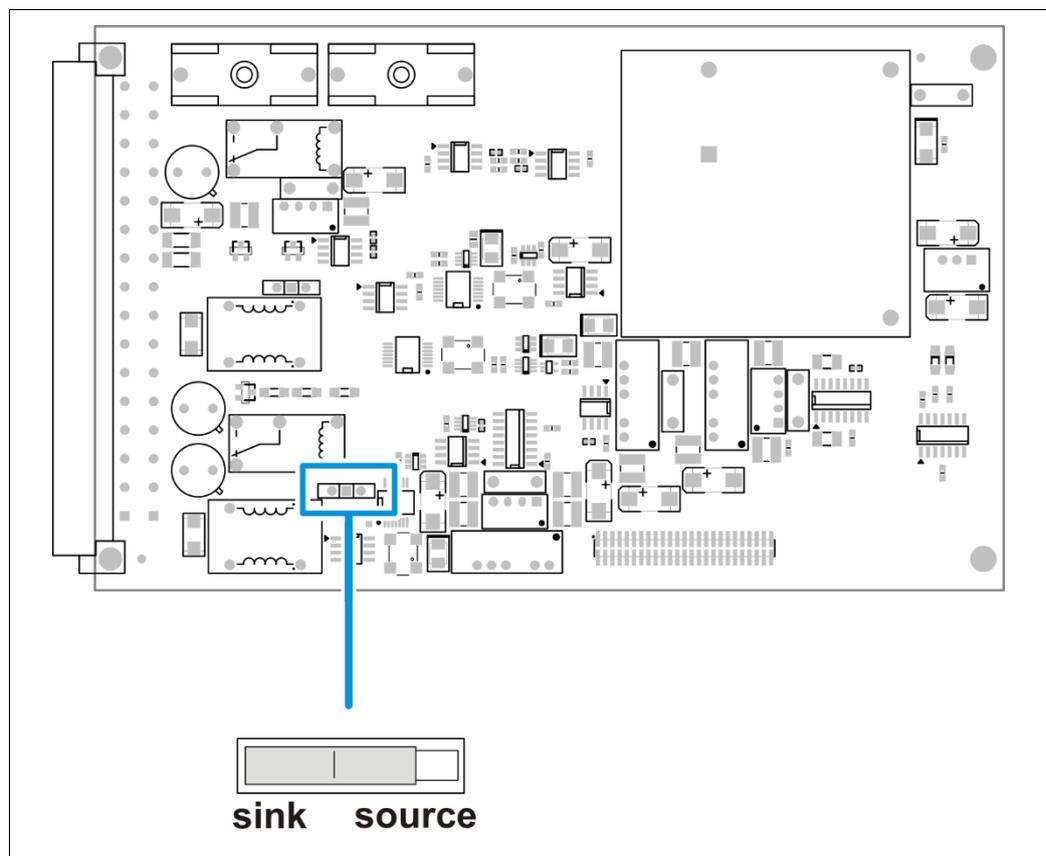

Fig. 12 Extension Module, Setting the Current Output at the Changeover Switch
5. Set the desired position at the changeover switch (**Sink Mode** (Fig. 12) or Position **Source Mode** (Fig. 12)).